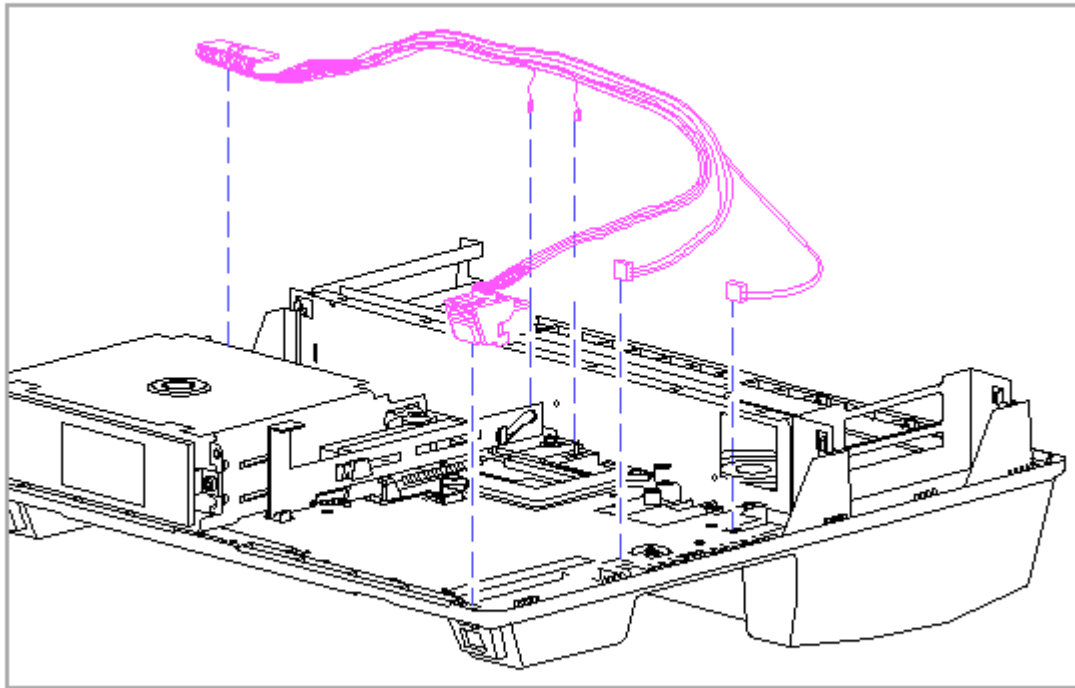

Figure 9-42. Removing the Power Switch Cable Harness
11. Remove the power switch cable harness (Figure 9-42).